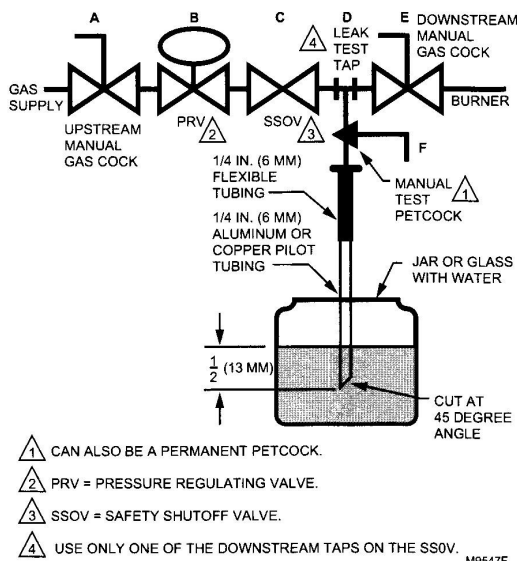

Fig. 8. Valve leak test.
### Valve Leak Test (Fig. 8)
1. De-energize the control system to make sure no power goes to the valve (C, Fig. 8).
2. Close the upstream manual gas cock (A).
3. Make sure the manual test petcock (F) is closed in the leak test tap assembly (D).
4. Remove the leak test tap plug and connect the test apparatus to the leak test tap (D).
5. Close the downstream manual gas cock (E).
6. Open the upstream manual gas cock (A).
9. Slowly open the manual test petcock (F).
For periodic inspection and maintenance, set up a schedule and follow it. Include the burner, valves and all other burner controls. It is recommended that "Valve Leak Test (Fig. 8)" on page 6 be included in the schedule. Refer to the flame safeguard control instructions for more information.